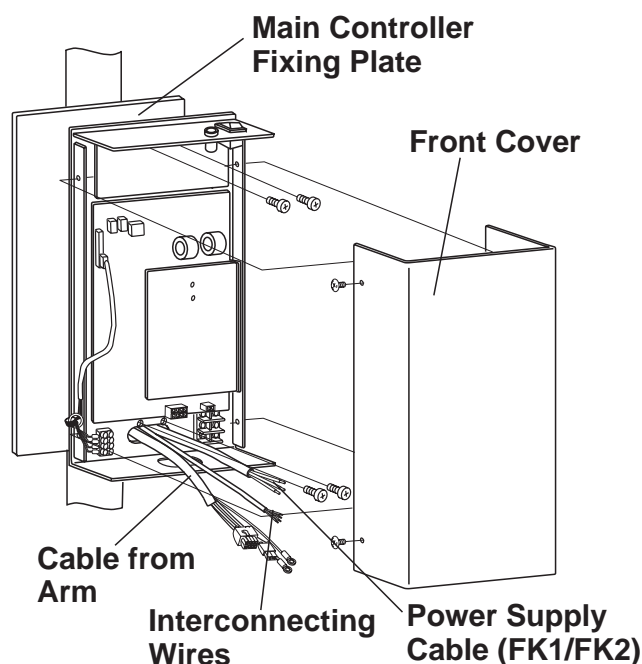

Fig.3-23A Fixing Main Controller (FK1/FK2, FM Type)
1. Remove 4 cover screws and open the front cover. (**Fig.3-23A, B**)
After passing through the arm cable, interconnecting wires and power supply cable into the hole on the chassis of main controller, fix the main controller on the main controller fixing plate with 4 screws. (**Fig.3-23A**)
Power supply cable is pre-fixed on the main controller. (**Fig.3-23A**)